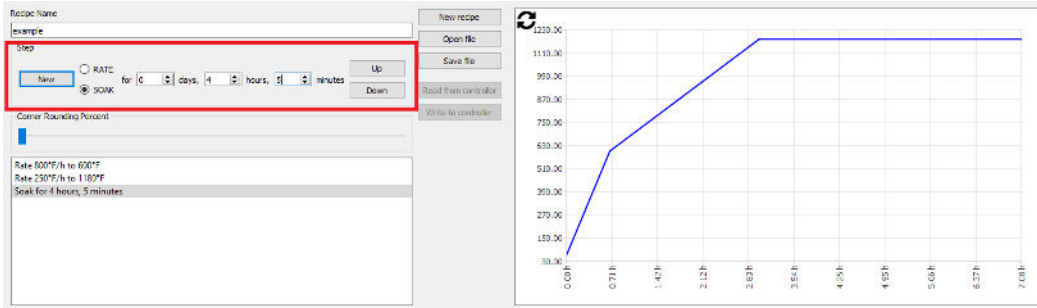

Figure 75: Recipe Editor – ‘Soak’ Step
- Once you are ready to add a Soak step, make sure you have a “New Step” in the list and then select “Soak” and enter the amount of time your cycle needs to be held at temperature – as is highlighted in Figure 75 on the next page. If your parameters don’t require a controlled cooling step, you can proceed to step 8. Otherwise continue to step 7 to add a cooling step.